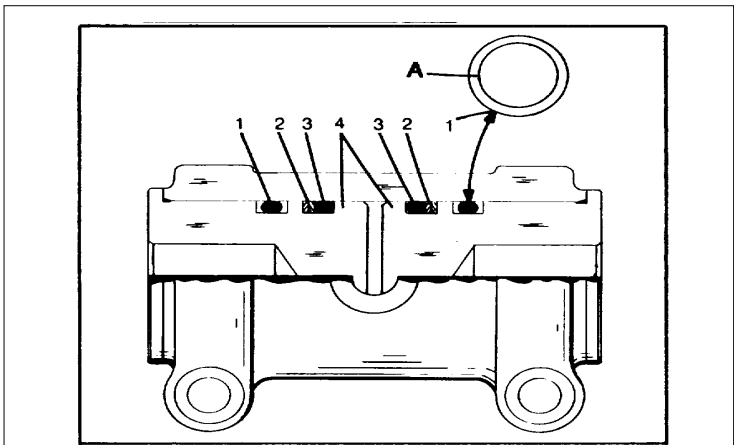

Fig. 2
- (d) Remove cylinder piston rods (8).
- (e) Remove hydraulic hose (20) leading from rotating joint (1) to clutch cylinder (4).
- (f) Remove mounting capscrews (3) and clutch cylinder (4).
4.6 Cylinder Repacking (Refer to Fig. 2)
- (a) Remove pistons (4) from cylinder.
- (b) Remove old 'O' ring (3), back up rings (2), and wiper rings (1) from pistons.
- (d) Install new 'O' rings (3) in inner groove on pistons. Slide the rings into place --don't roll them.
- (e) Install back up rings (2), two per piston, in groove next to 'O' ring (3) (toward outside of cylinder).
- (f) The wiper rings (1) are actually knife cut 'O' rings. If cut wiper rings are not available, knife cut an 'O' ring as shown in Fig. 2.